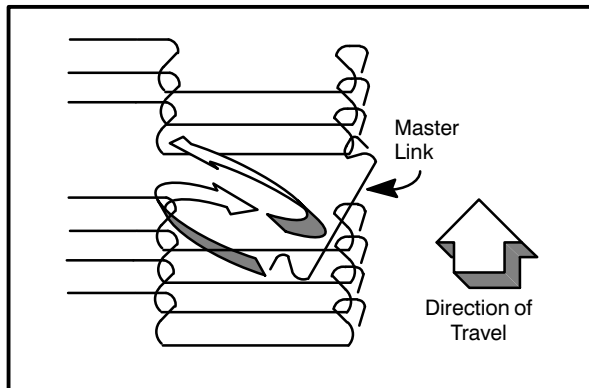

FIGURE 3
4. Install the inner and outer master links as shown in FIGURE 3.